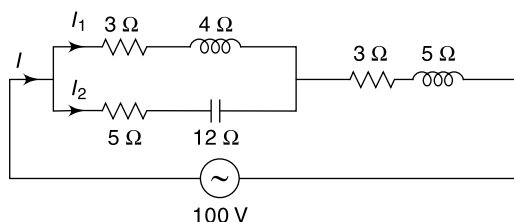

Fig. 5.88 Circuit diagram for Ex. 5.27
32. Find the current through each element in the circuit shown in Fig. 5.88.